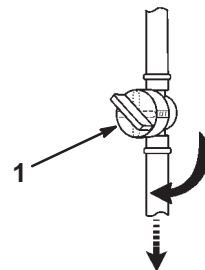

Figure 9
1. Open the fuel shut-off valve (Fig. 9) located between the fuel tank and the engine. The handle should align with the fuel hose.